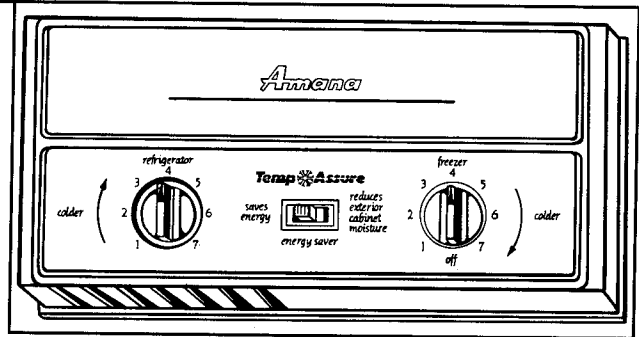

Figure 53
- 1. Locate refrigerator and freezer controls at inside back of refrigerator section. See Figure 53.